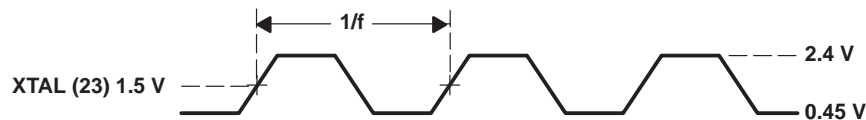

Figure 11. VCO-Gain and Filter-Voltage Test Timing
- NOTES: 13. The frequency f is applied to XTAL with FRAQ high as shown in Figure 11. The voltage at FILTER is measured after lock is achieved.